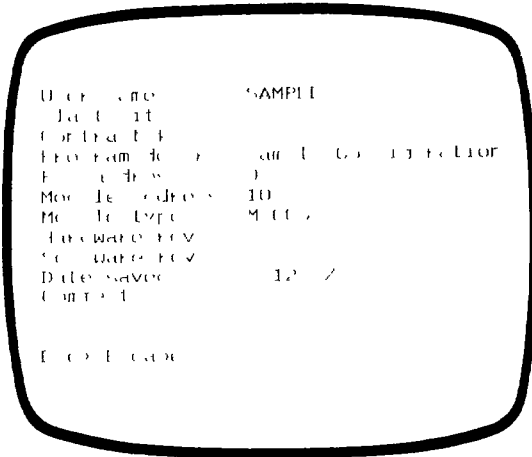

FIGURE 3 3 CSP Title Page
- 6 Press Escape again. The entries you made in step 4 will be written to the disk. The display of Figure 3 4 is now on the terminal. The first task is to edit memory and link specs, select F1. The display shown in Figure 3 5 comes up.